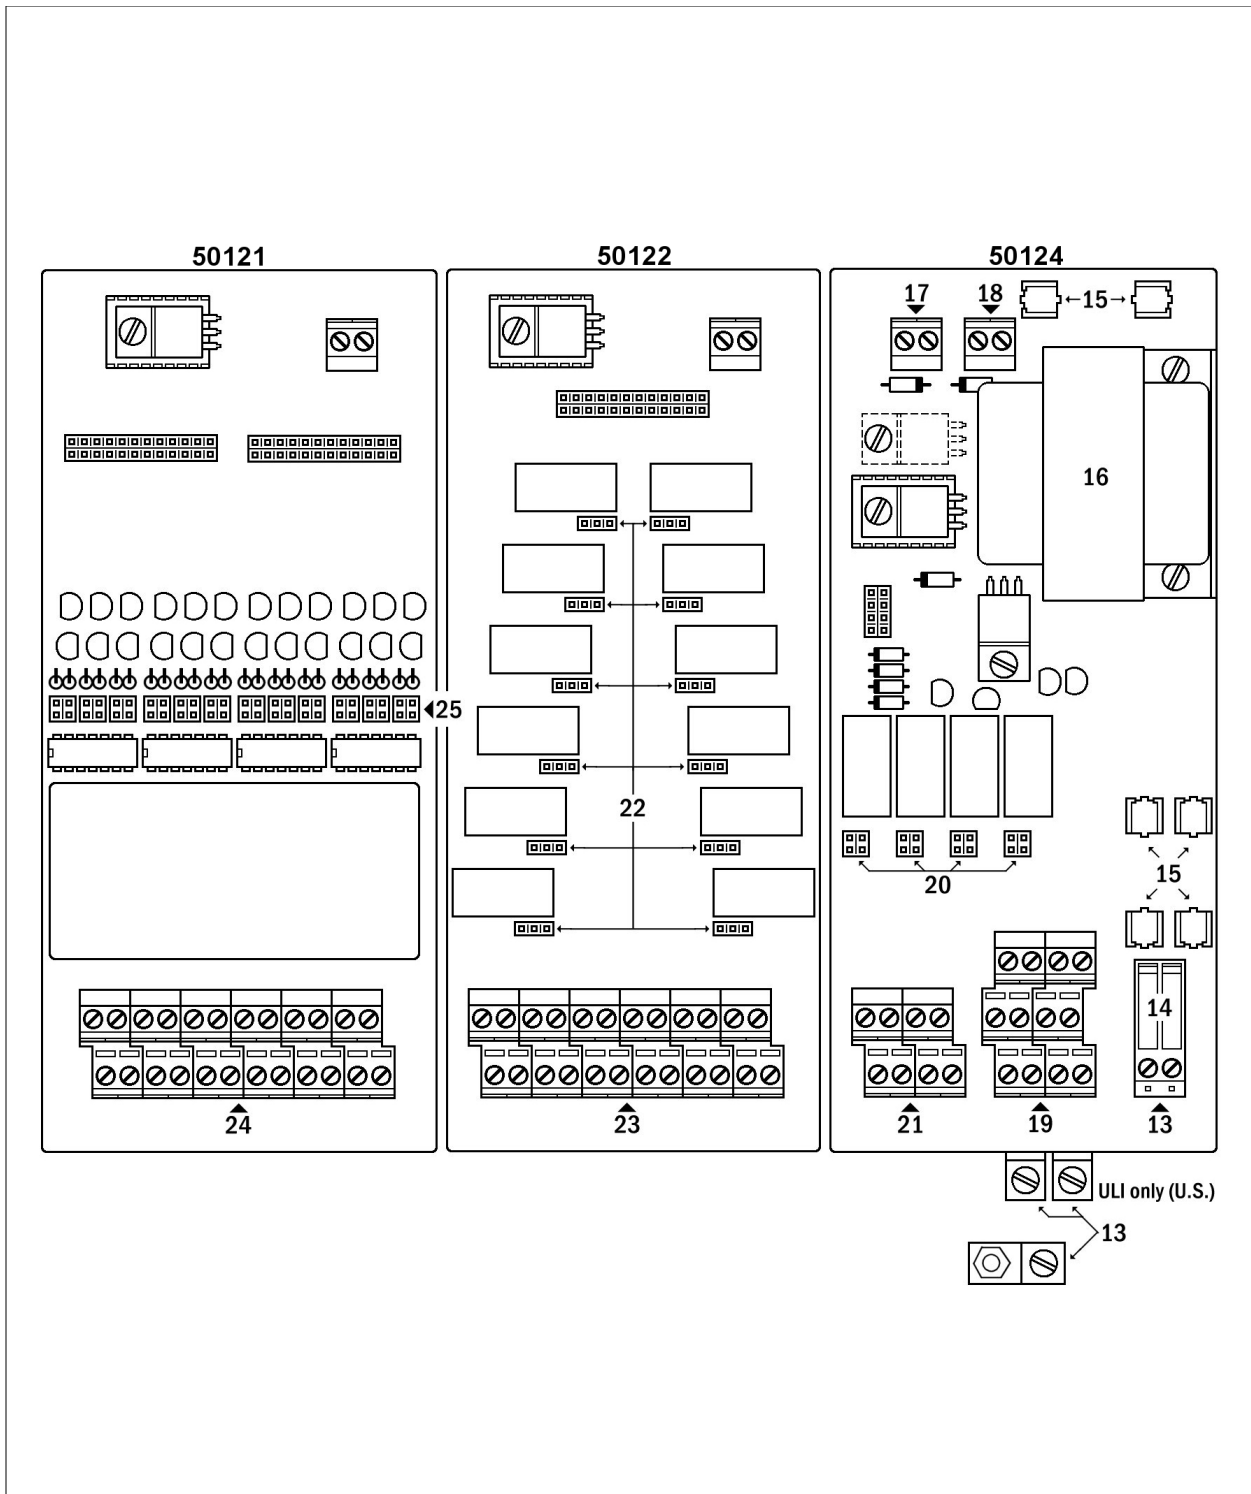

FIGURE 2: Internal features of the ATI-5100 monitor.
**POWER SUPPLY**     The monitor operates on 120 vac, 60 hz. The main ac power connects to the power terminal block and ground located inside the monitor (see FIGURES 2 and 3).